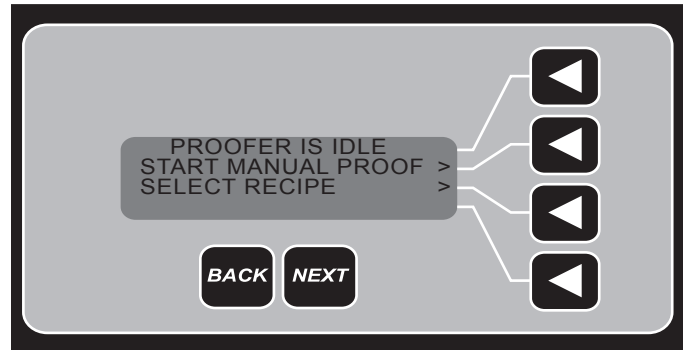

Fig. 5
1. Select START MANUAL PROOF (Fig 5). Set required parameters as follows.